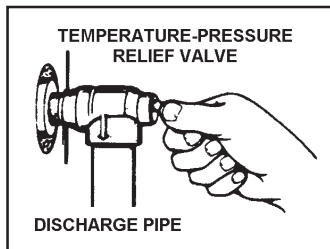

FIGURE 39.
When checking the temperature-pressure relief valve operation, make sure that (1) no one is in front of or around the outlet of the temperature-pressure relief valve discharge line, and (2) that the water discharge will not cause any property damage, as the water may be extremely hot, see Figure 39.